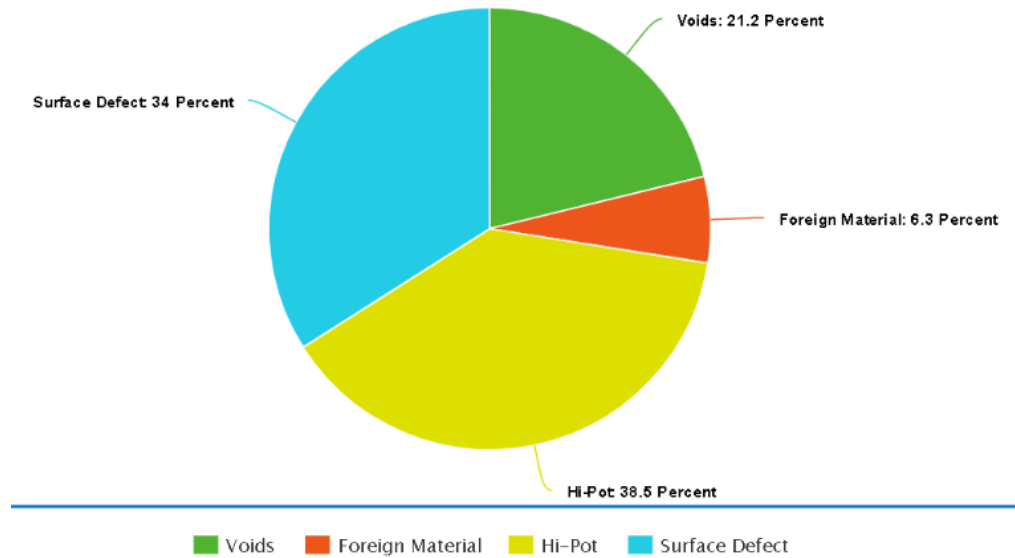

Figure 3: Pareto Defect Chart
1. **HiPot Defects:** As illustrated in **Figure 3**, HiPot-related defects are the leading cause of laminate scrap, highlighting the importance of effective insulation material and manufacturing consistency.